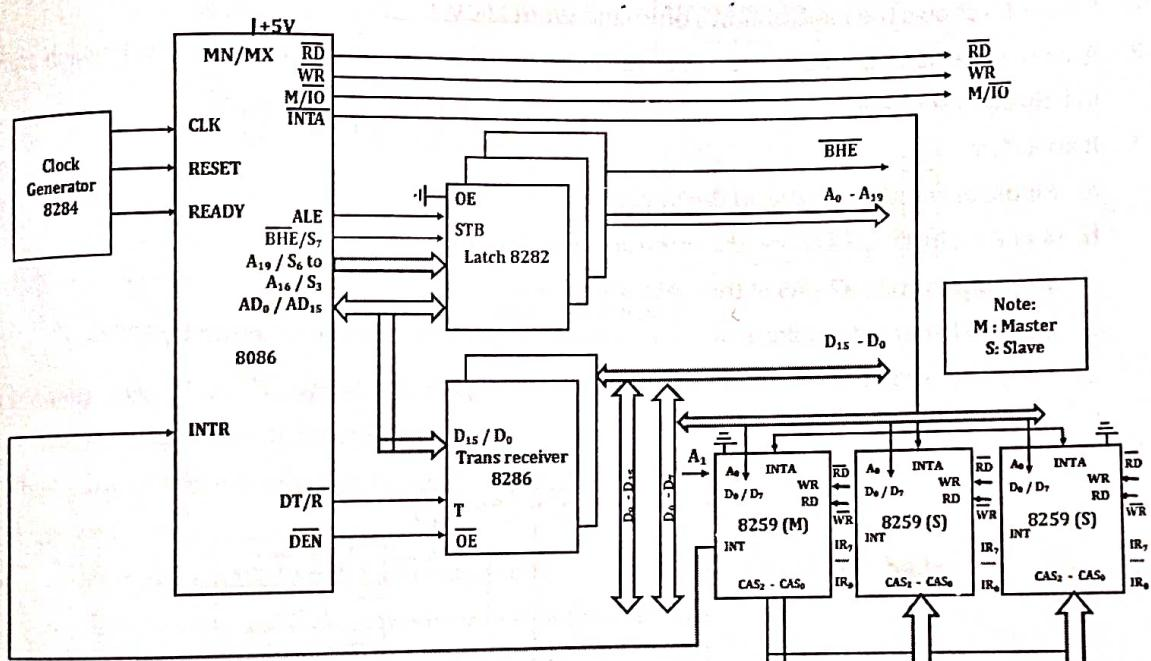

Figure 3.2: 8086 in Minimum Mode, 8259 in Cascade Mode.
13. Figure 3.2 shows interfacing of 8259 with 8086 in minimum mode (8259 in cascade mode).